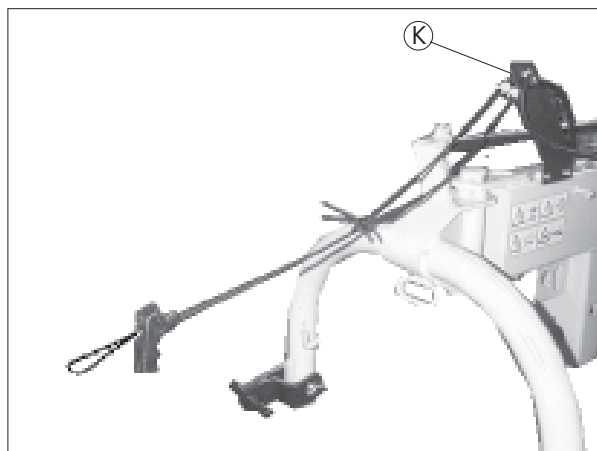

Fig. 3-14
Screw cable retainer (K) to the front frame end using the two self-cutting M8x16 screws (fig. 3-14).